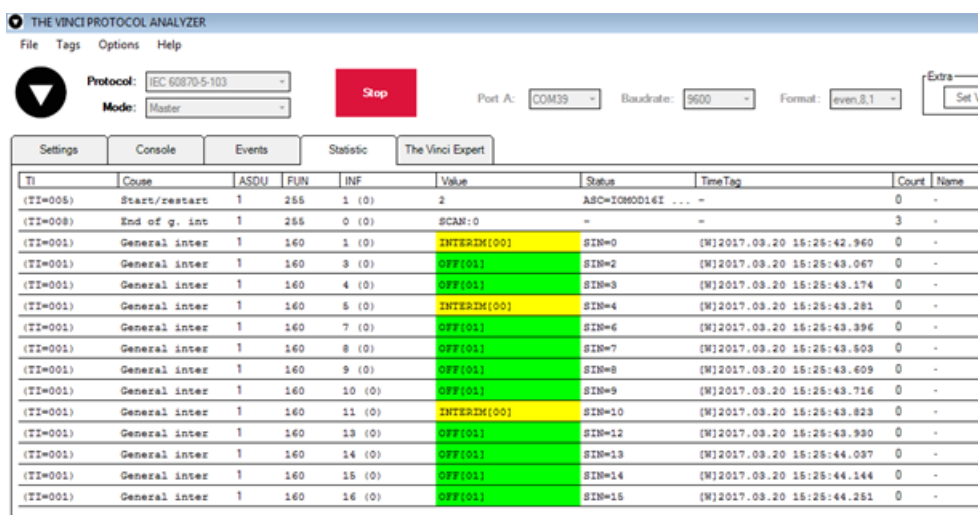

Fig.3.2. Statistic tab in “The Vinci” application for IEC-60870-5-103
Fig. 3.2 shows 1st + 2nd , 5th + 6th and 11th + 12th Inputs grouped (notice order of info numbers). These pairs is shown INTERM (00) because both inputs of pair are off (giving binary representation of 00b).